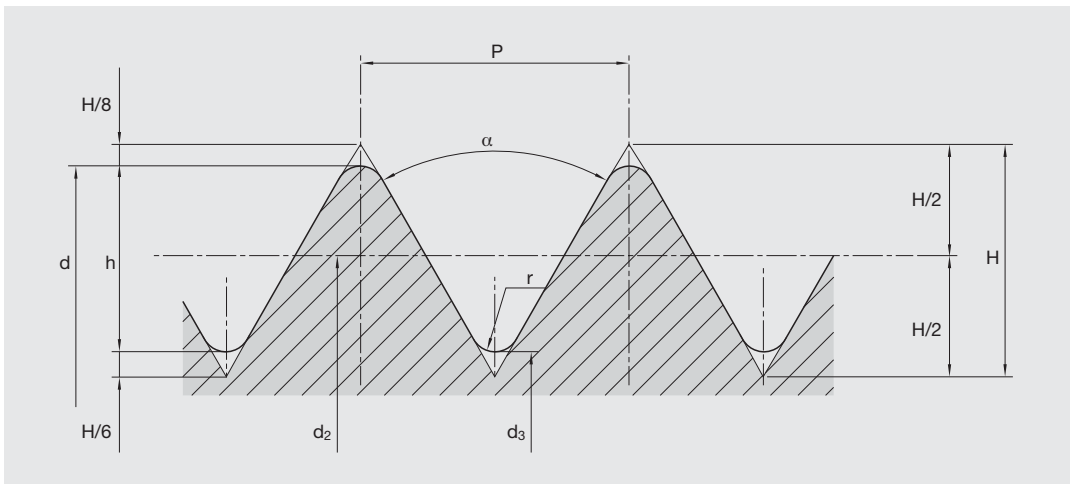

Figure 14: Characteristics of threads (example: metrical ISO thread)
- d₃*: Core diameter [mm] (Figure 14)